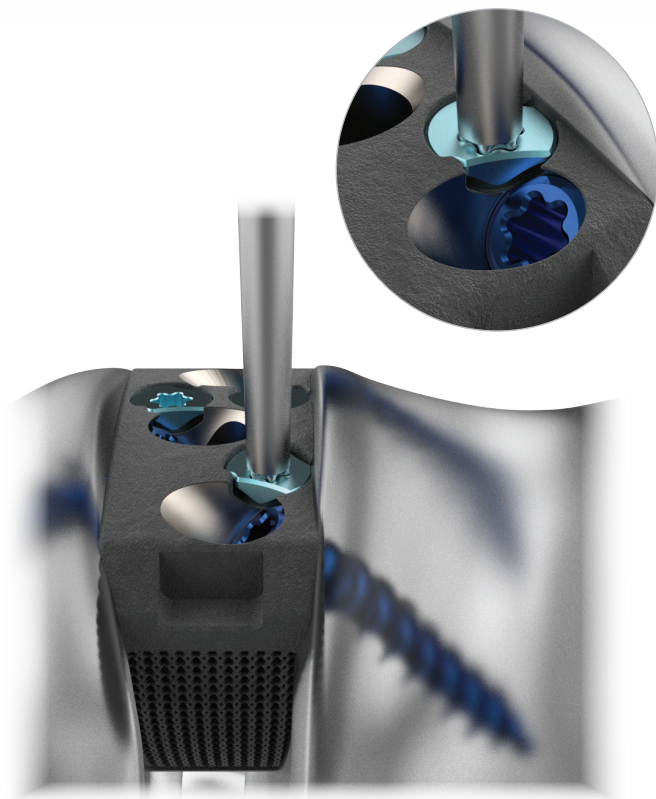

Figure 23
- Mate the tip of the turn lock tool to the turn lock. Rotate counterclockwise, approximately 90°, until turn lock encounters hard-stop with cage (Figure 23). Repeat for all turn locks.